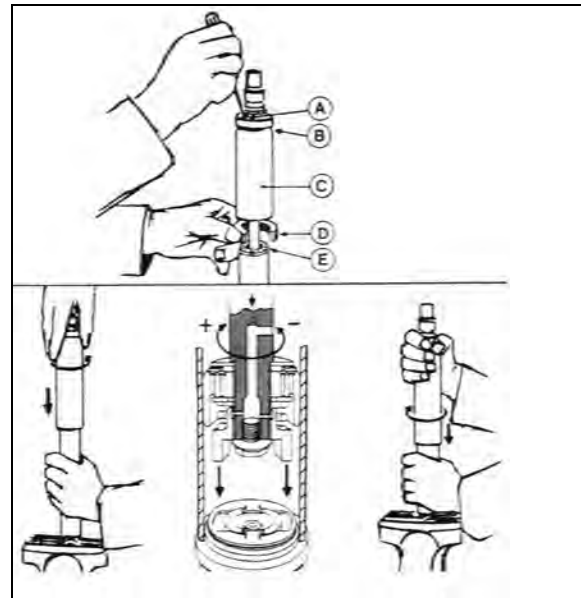

FIGURE 54: DAMPER
To adjust opening and closing cycle speed on damper (Figure 54):
- Fully close the damper while turning the dust cap or piston rod slowly CCW until it is felt that the cams of the adjusting nut engage in the recesses of the foot valve assembly (Figure 54).
*In Figure 54, if there is an indentation (B) in the dust cap (C) and the cover shows two holes (A), the damper is fitted with a bump rubber (D). If so, fully extend the damper and insert a round bar or screwdriver through the holes. Push the bump rubber down and remove. Remove the split plastic collar (E) (if fitted) from the piston rod.*
*Where a bump rubber was installed, refit same inside the dust cap and by fully closing the damper, the rubber will seat again at top of the dust cap. Refit the split plastic collar E (Figure 54).*